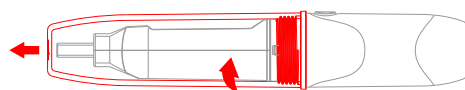

Fig.20
Step 1. Rotate the transparent cap and remove it in the direction shown in Fig. 20.